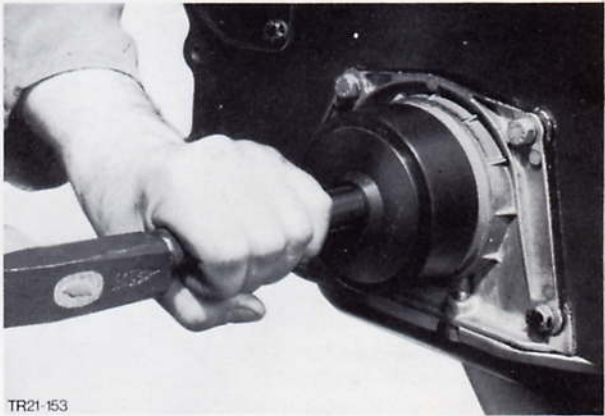

Fig. 158. Drive in oil seal with Special Tool 21-011-A
4. Lubricate crankshaft oil sealing lip and drive in up to stop, using Special Tool 21-011-A, Fig. 158.